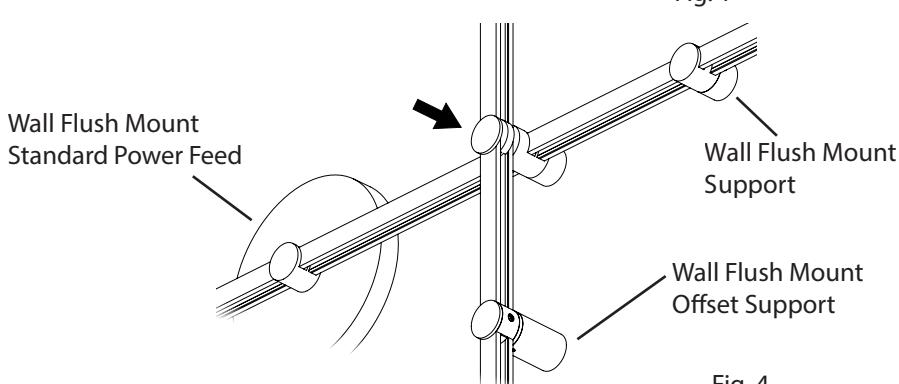

Fig. 4
2. Insert **Power Bars** into **Support**. **Note:** Wall Mount Perpendicular Power Bar Hanger (1XB03WP00x) is to be used in conjunction with Wall Flush Mount Support (1XB02WL00x), Wall Flush Mount Offset Support (1XB02WL01x) (Fig 4), and Wall Flush Mount Standard Power Feed (1XA08WL01x) or Remote (1XA08WL02x) (Fig 4).